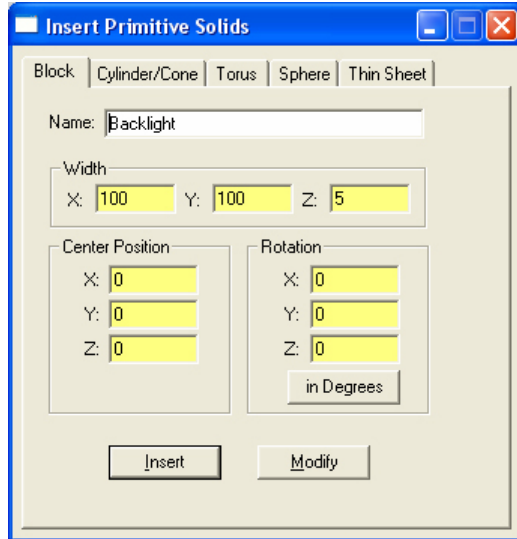
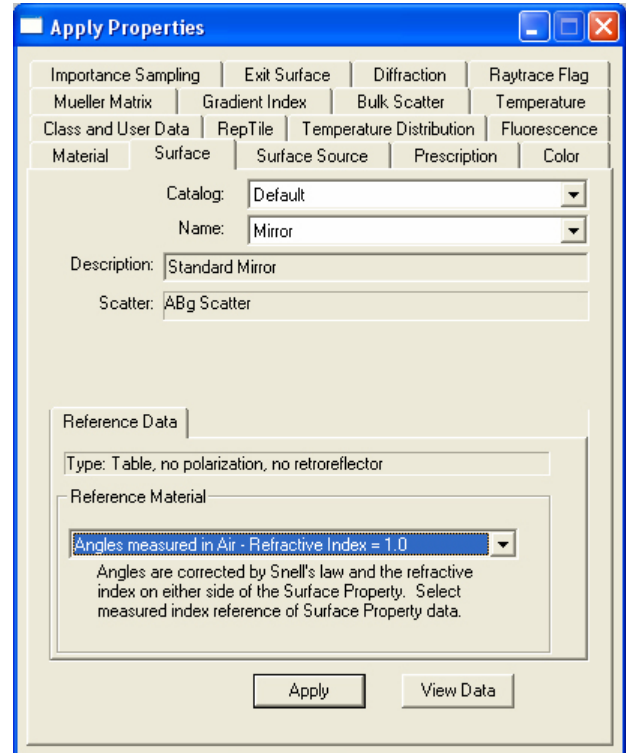

Figure 1. Parameters to Insert the Backlight.
Figure 2. Apply properties for Mirror application.
We first create a square acrylic backlight with dimensions of 100 mm x 100 mm x 5 mm (XYZ). This solid is centered along the z direction. Figure 1 shows the dialog, Insert>Primitive Solid...>Block, for this structure. We retain, at this time, the default bare surfaces on the two large surfaces and the edge in the +y direction. As shown in Fig. 2, for the three remaining surfaces we place the Mirror Surface property within the Default Catalog. Here are the steps for the process described here:
3. Enter the values as shown in Fig. 1,
9. Enter the parameters as shown in Fig. 2,